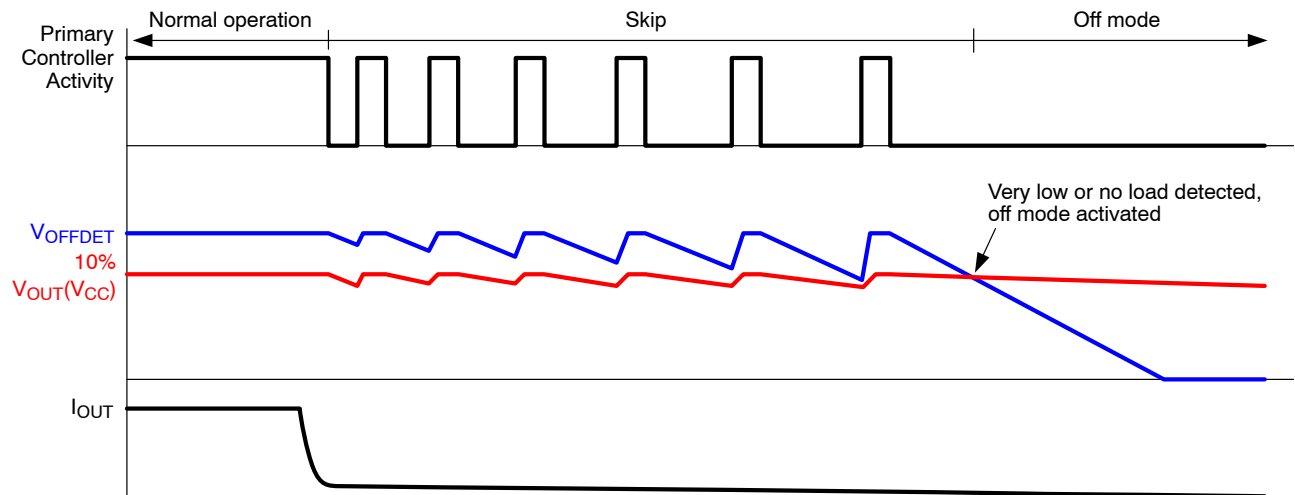

Figure 27. OFF Mode Detection
The OFF mode detection is based on comparison of output voltage and voltage loaded with fixed resistances (D2, C2, R7 and R8). Figure 27 shows detection waveforms. When output voltage is loaded with very low current, primary controller goes into skip mode (primary controller stops switching for some time). While output capacitor C1 is discharged very slowly (no load condition), a fixed load R7 and R8 discharges the capacitor C2 faster than load current discharges output voltage on C1.
While both C1 and C2 are discharged during the missing cycles, C2 discharge will be faster than C1 without output current, V_{OFFDET} drops below $V_{OFFDETTH}$ and OFF mode is detected (7). This situation is shown in Figure 27 in detail. When OFF mode is detected, current into ONOFF pin stops to flow (7) and voltage at primary REM pin increases over threshold level that forces primary controller into OFF mode. Internal pull-up current I_{BIASV} is switched on (7), VSNS pin voltage increases (thanks to I_{BIASV}) and voltage amplifier sinks reduced current at time (8), when VSNS is higher than V_{REF} (9), to keep primary FB voltage below switching level until REM pin voltage is high enough. I_{BIASV} current stops when VSNS voltage drops below 90% of V_{REF} .